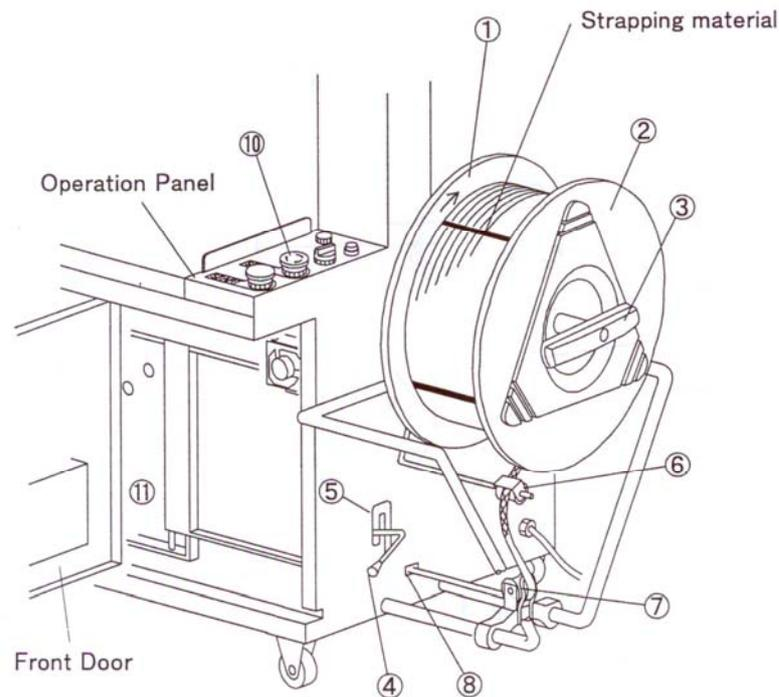

FIG. 001
1. Fit the new coil of strapping material while it is still secured in a roll, ensuring that the strapping is wound in a clockwise direction, as shown in Fig. 001